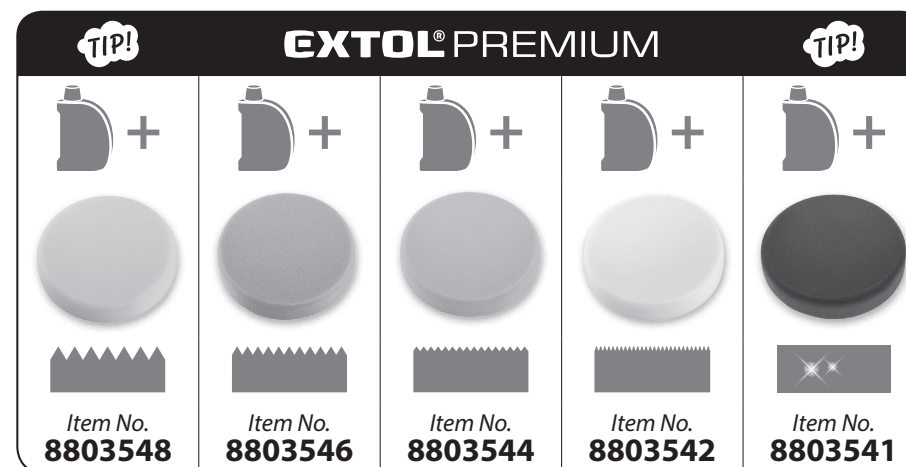

Fig. 2
- Orbital polisher Extol® Premium 8892510 is intended primarily for polishing, conservation and treatment of car paint/varnish coats on motor vehicles without the use of water and also **for retouching minor defects on car paint/varnish layers** (e.g. for removing coarse/deep scratches, resprays, road asphalt deposits, insect remains, sanding away of micro-layers of weathered paint varnish coats for the reinvigoration of original colour, sanding away and treatment of locations with corrosion, removal of micro-fine shallow grooves caused by car washing, holograms, etc.) **with the use of orbital polisher foam discs intended for this purpose and appropriate pastes/emulsions with abrasive effects and car polish (car care products)**. An overview of foam discs with the purpose of their use is provided above in table 1 and the principle of their use in fig. 2 above.